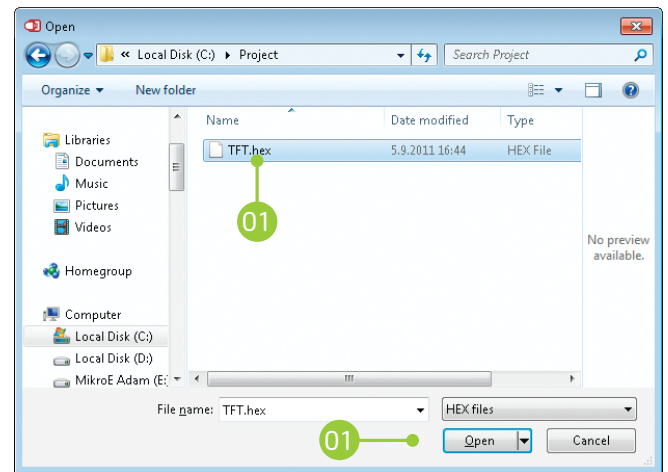

Figure 3-5: Selecting HEX
- 01 Click the **“Browse for HEX”** button and from a pop-up window (Figure 3.5) choose the .HEX file which will be uploaded to MCU memory.